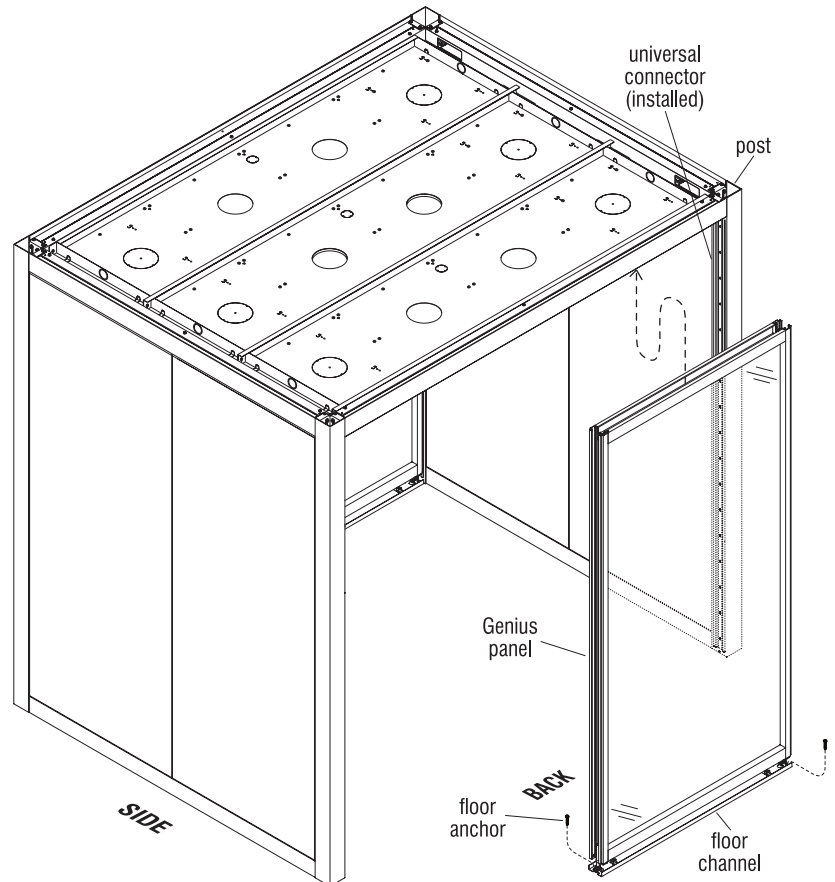

Figure 3 - Genius Panel Installation
5. With the assistance of a second person, position one panel to its specified location under the ceiling rail and align it tight to the appropriate universal connector on the post (Figure 3).
8. Once panels are in place and height is adjusted, floor anchors are required to secure the panel floor channel in place. Refer to page 55, Details A, B & C to determine the appropriate anchor requirements, then install the floor channel using anchors (Figure 3 and page 55, Details A, B & C).